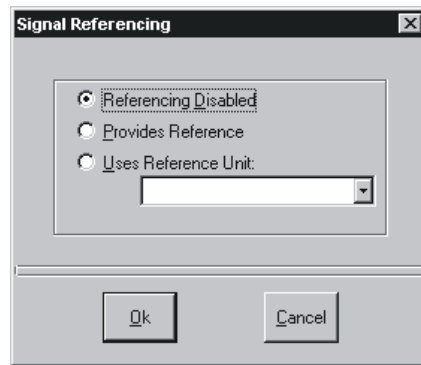

Figure 6-12. Signal Referencing Window
1. Select **Options>Configure>Referencing** from the menu to open the Signal Referencing window (Figure 6-12) and show the current settings.